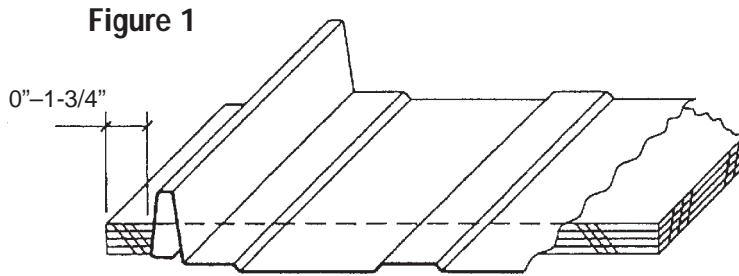

Figure 1
1. Align the female edge of the first panel with the chalk line from 0" to 1-3/4" snapped at the rake edge. Remember this line can be from the rake edge. Panel should over hang eave a minimum of 1". See figure 1.